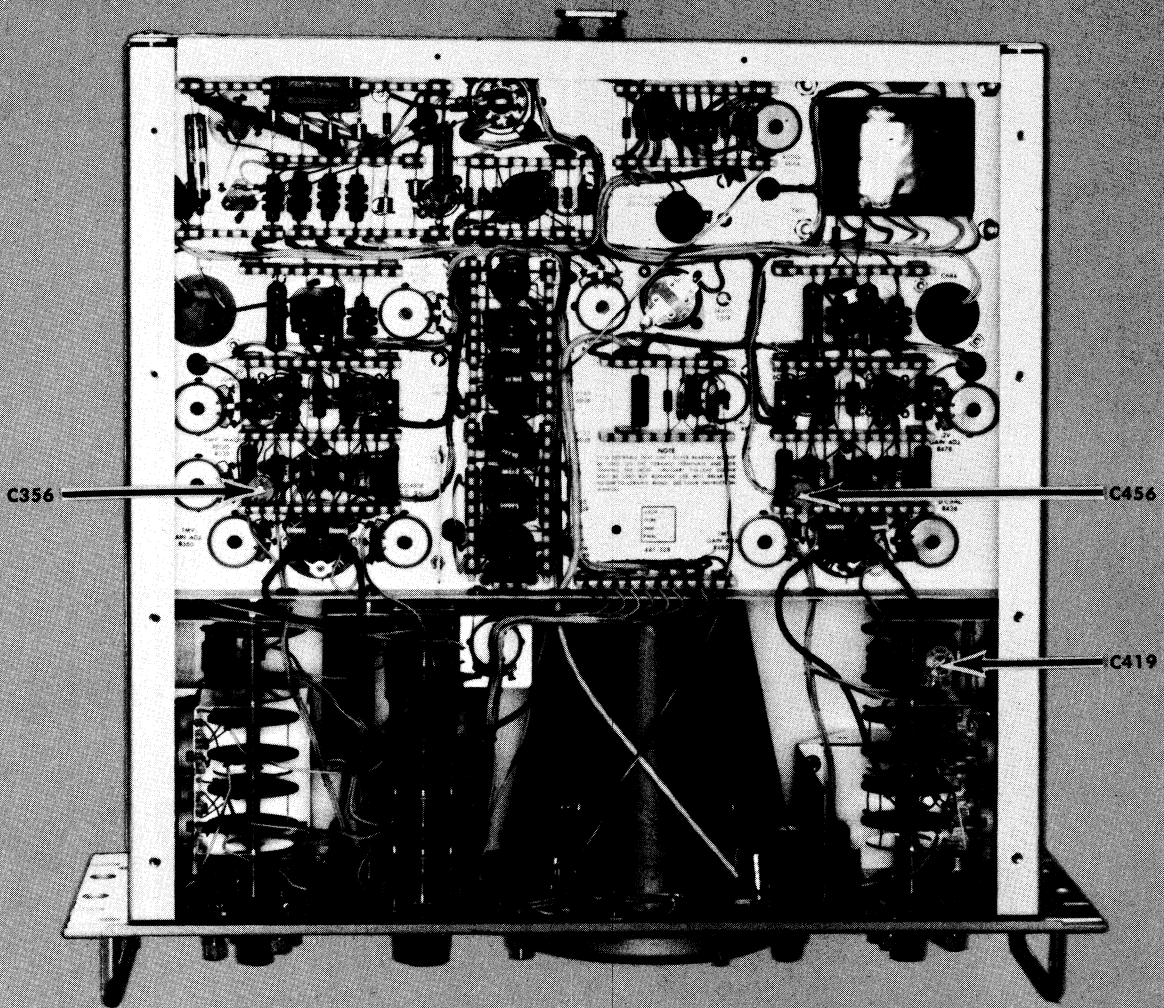

Fig. 6-6. Bottom view of the Type RM503 showing location of internal adjustments.
b. Change the output frequency of the Type 190B to 450 kc. Adjust C356 (See Fig. 6-6) so that the display is exactly 4.3 CM in length.
c. Change the vertical +INPUT to DC. This will make the display change to a straight line or extremely flattened ellipse at a 45° angle across the screen. Adjust the amplitude of the Type 190B to make the display 6 CM high. If the separation of the trace is greater than one minor graticule division at the widest part of the ellipse, adjust C456 (See Fig. 6-6) for one minor division or less of separation.